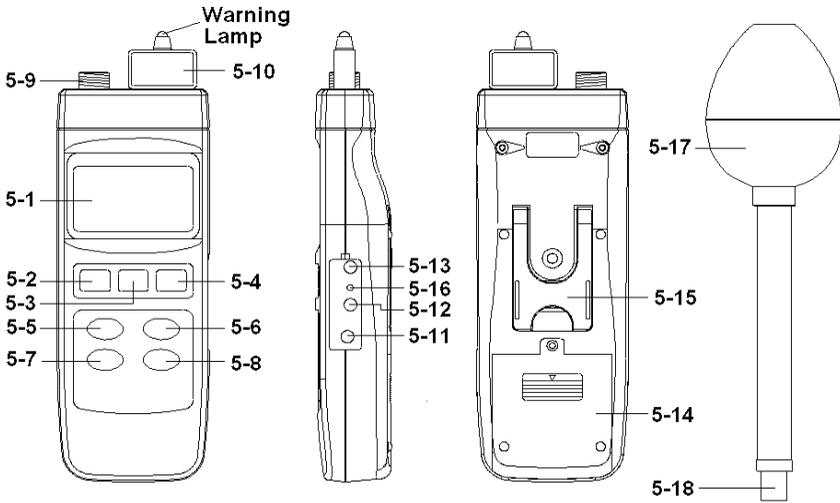

Fig. 1
- 1) Connect the " Probe Plug " (5-18, Fig. 1) into the " Probe Input Socket " (5-9, Fig. 1).
- 2) Plug in the exclusive " Probe Memory Card " (5-10, Fig. 1) into the front end socket of meter.
Make sure to use the " Frequency Team Button " (5-5, Fig. 1)) to select the convenient point that according the measurement object.
After inserting the " Probe Memory Card " (5-10, Fig. 1) and connecting " Probe Plug " (5-18, Fig. 1) into the " Probe Input Socket " (5-9, Fig. 1), use " Unit Button " (5-6, Fig. 1) to select the " V/m, W/m², mW/cm² ".
- 1) Use the " Freq. Team Button " (5-5, Fig. 1) to select the proper frequency team.
- 1) Press the "Alarm Button " (5-8, Fig. 1) once to start the alarm function, while the " units " symbol will flash on the display.
- 2) Press the " Alarm Button " (5-8, Fig. 1) once again to stop the alarm function.
- 3) Press the " Alarm Button " (5-8, Fig. 1) continuously and over 2 seconds, the "Alarm low limit value " will indicate on the lower display, use the " ▼, ▲ Buttons " to adjust the desiring low limit value.
- 4) Press the " Enter Button " (5-4, Fig. 1) will save the low limit value and going to adjust the " High limit value, procedures will similar as above.
- 5) After finish the " High limit value " adjustment, press the " Enter Button " (5-4, Fig. 1) will save the high limit value and going to adjust the alarm Hysteresis value, procedures will similar as above. Upon finish the alarm " Hysteresis value " adjustment, press the " Enter Button " (5-4, Fig. 1) will save the data.
- 6) Press the " ESC Button " (5-3, Fig. 1) to finish alarm setting procedures.
During the measurement, press the " Hold Button " (5-3, Fig. 1) once will hold the measured value & the LCD will indicate a " HOLD " symbol. Press the " Hold Button " once again will release the data hold function.
- * The data record function records the maximum and minimum readings. Press the " REC Button " (5-4, Fig. 1) once to start the Data Record function and it will be a " REC " symbol on the display.
- a) Press the " REC Button " (5-4, Fig. 1) once, the " REC MAX " symbol along with the maximum value will appear on the display. Press the " REC Button " (5-4, Fig. 1) once again, the " REC MIN " symbol along with the minimum value. If intend to delete the maximum (Minimum) value, just press the " Hold Button " (5-3, Fig. 1) once, then the display will show the " REC " symbol only & execute the memory function continuously.
- b) To exit the memory record function, just press the " REC Button " 5-4, Fig. 1) 2 seconds continuously at least. The display will revert to the current reading.
Press the " Peak Hold Button " (5-7, Fig. 1) once to latch peak value on the display , press once again to exit the peak hold function.
To de-activate this feature, Select the memory record function during measurement, by pressing the " RECORD " button (5-4, Fig. 1).
The instrument has RS232 PC serial interface via a 3.5 mm terminal (5-12, Fig. 1).